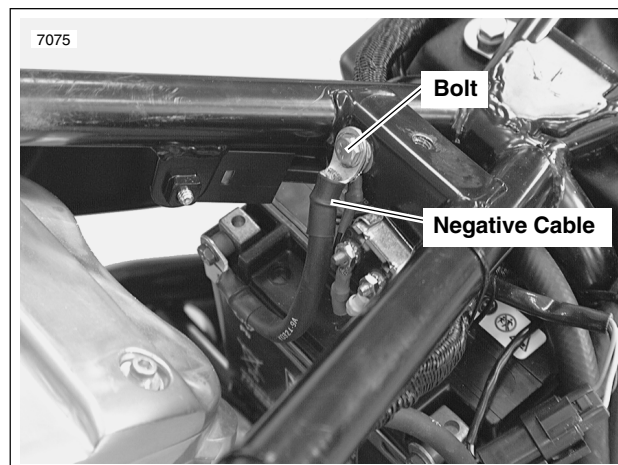

Figure 7-51. Negative Battery Cable (Typical)
3. See Figure 7-51. Remove bolt to detach negative battery cable from frame.
- a. See Figure 7-51. Positive battery cable runs from starter to positive battery terminal. Loosely connect positive cable to positive (+) battery terminal using bolt.
- c. See Figure 7-51. After positive cable has been connected, loosely connect negative cable to negative (-) battery terminal with screw.
- d. See Figure 7-51. Attach negative cable to frame with bolt.